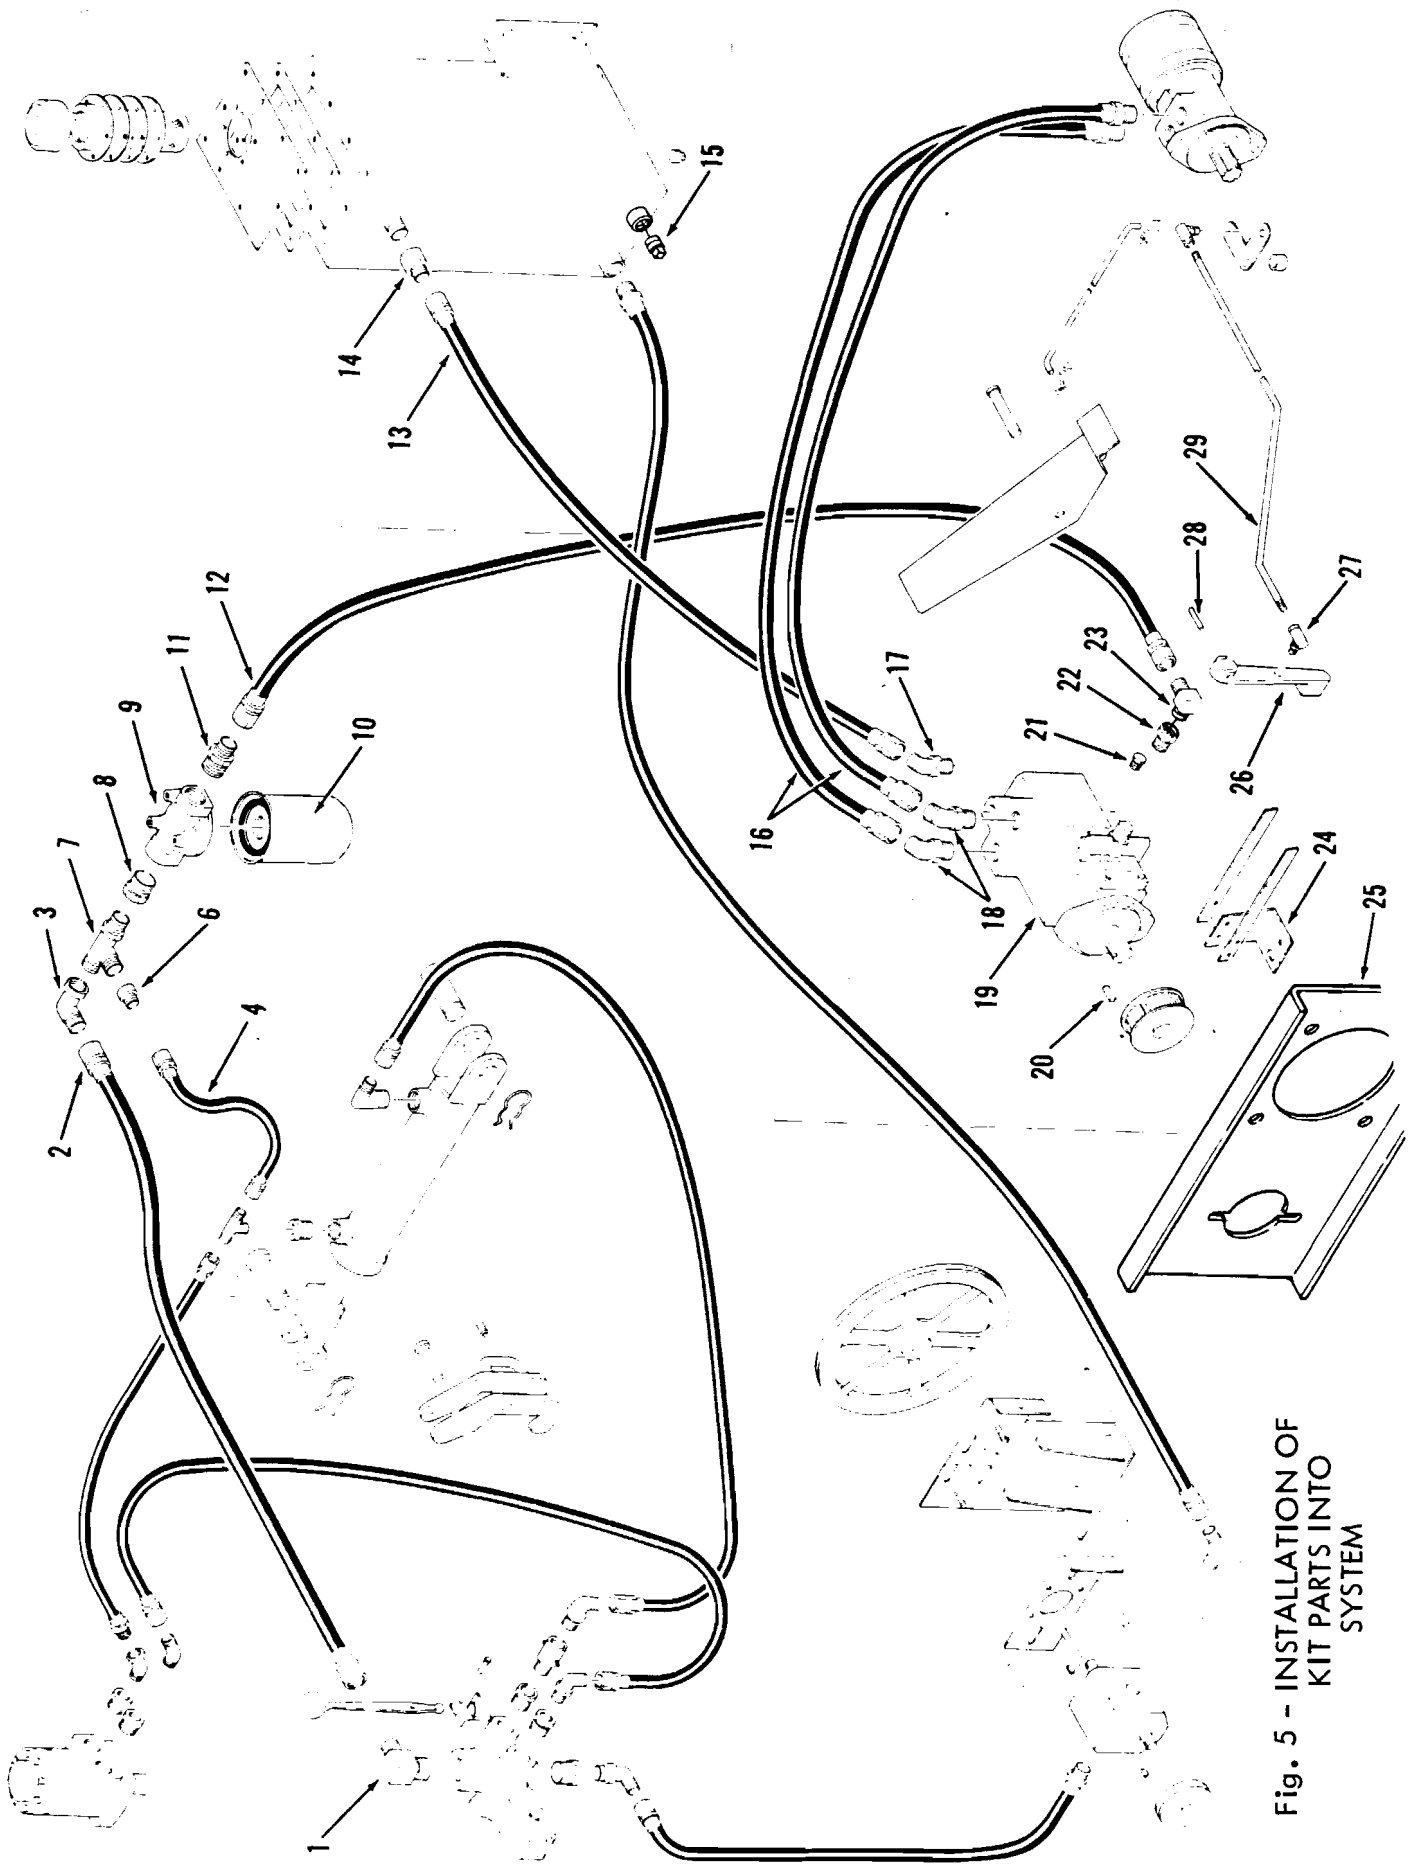

Fig. 5 - INSTALLATION OF
- b. Use the (4) 3/8 - 16 x 2.00" screws and lock washers to fasten.
7. Install fittings to new pump: (Fig. 5)
- a. 45° elbows at "A" and "B" ports, (2) 44936
9. At the control valve (Fig. 5), install the appropriate elbow. There are (3) elbows in the kit:
10. At the hydraulic reservoir, install the following: (Fig. 5)
12. Install new control rod 33233 (Fig. 5, item 29). Reuse existing ball joint and balljoint 14506 from kit (Fig. 5, item 27).
17. Connect pintle arm to pump and to balljoint control rod assembly. The new arm is 69107. See Fig. 5, item 26.
18. Reconnect and install new hoses (Fig. 5).
- c. Install (2) hoses 47893 between the drive motor and the pump.
NOTE: Tighten the hoses on the drive motor first. See Fig. 5.
- d. Install hose 49942 between the tee on the lift cylinder and the tee on the hydraulic oil filter (Fig. 5).
- e. Install hose 52908 between the new elbow on the control valve and the elbow on the hydraulic oil filter (Fig. 5).